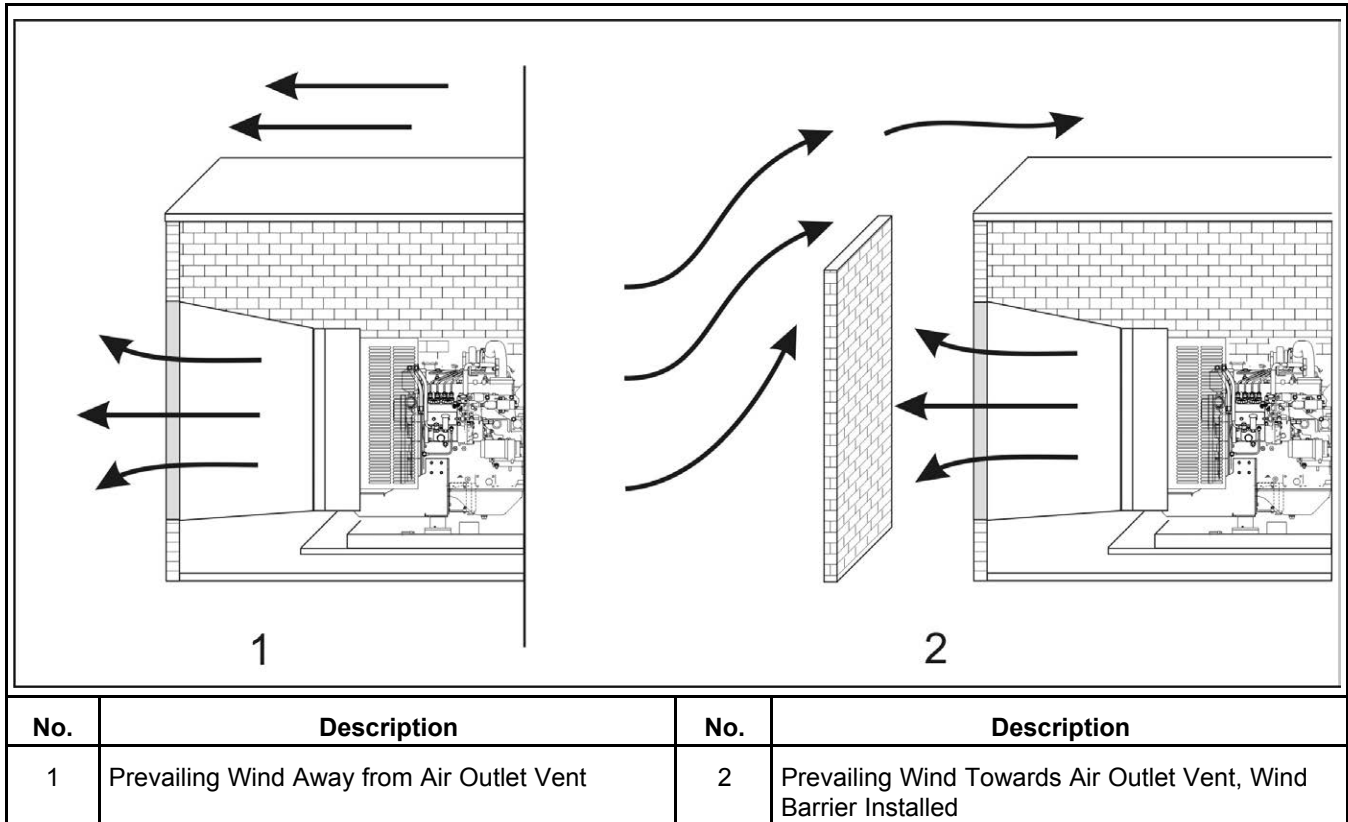

FIGURE 14. WIND BARRIER
3. Wind will restrict free airflow if it blows directly into the air outlet vent. Locate the outlet vent so the effects of wind are eliminated, or if the outlet vent cannot be located as mentioned, install a wind barrier. See Figure 14.